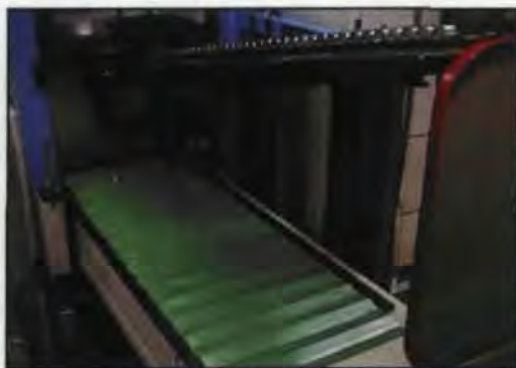

Figure 4—New system included flexible automation with gantry loader.
- Flexible Automation with Gantry Loader (Fig. 4).